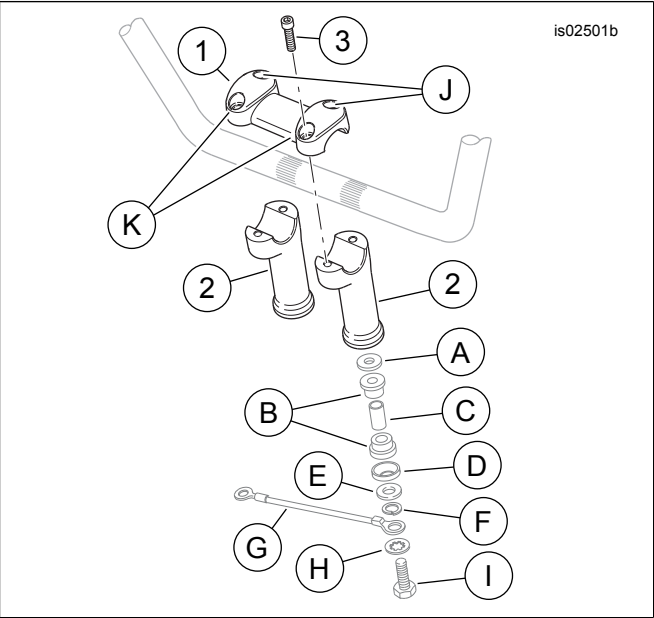

Figure 1. Service Parts, Fat Handlebar Riser Kit
See Figure 1 and Table 1.
2. See Figure 1. Remove two riser mounting screws (I) from under the upper fork bracket. Remove the risers and hardware (A through H). Note the sequence and orientation of the hardware as it is removed and retain it for later installation. Discard the original equipment (OE) risers and riser clamp (or caps).